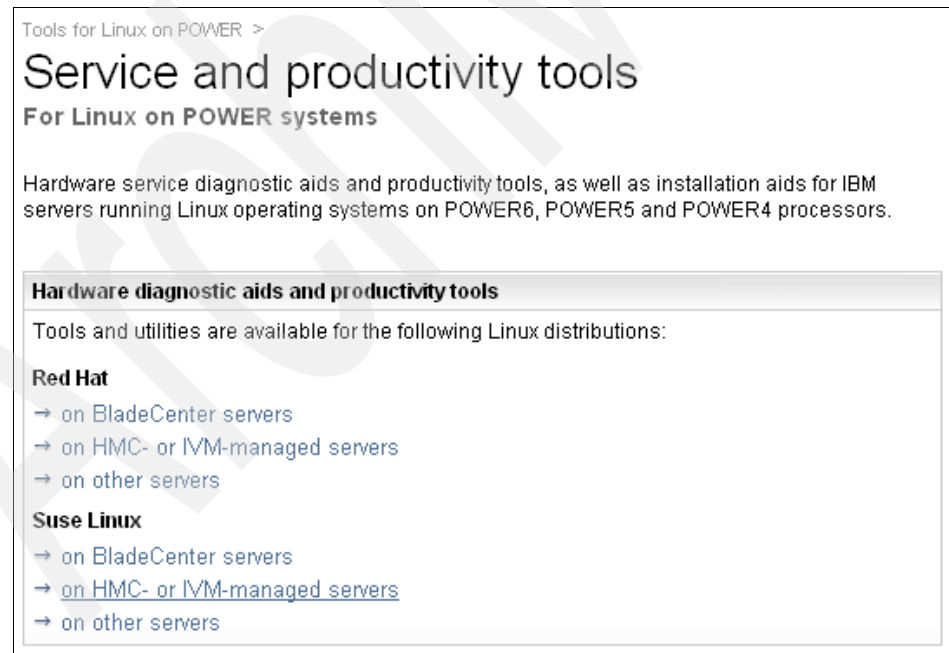

Figure D-2 Select "on BladeCenter servers"
2. On this Web site, click the **on BladeCenter servers** link under the Red Hat or SUSE Linux distribution headings, as shown in Figure D-2.
2. On this Web site, click on **HMC- or IVM-managed servers** under the Red Hat or SUSE Linux distribution headings, as shown in Figure D-2 on page 542, depending on what OS is running on the LPAR.